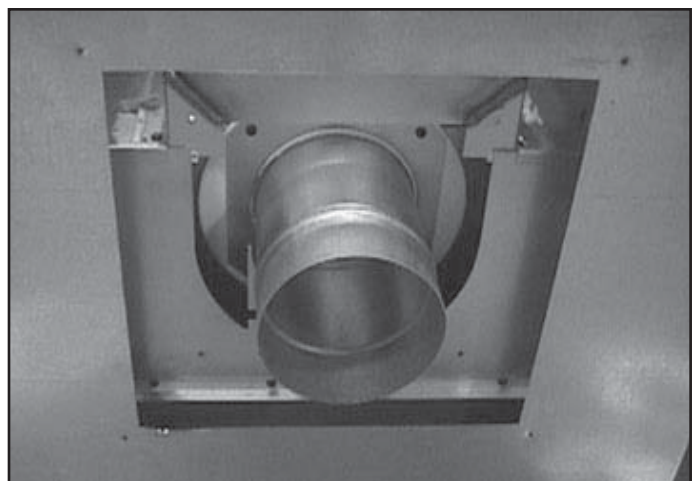

Figure 9.10 Place inner collar on Rear of Appliance
- Place inner collar on appliance back and replace four screws to hold this collar in place. See Figure 9.10. Make sure insulation is attached to the collar base!